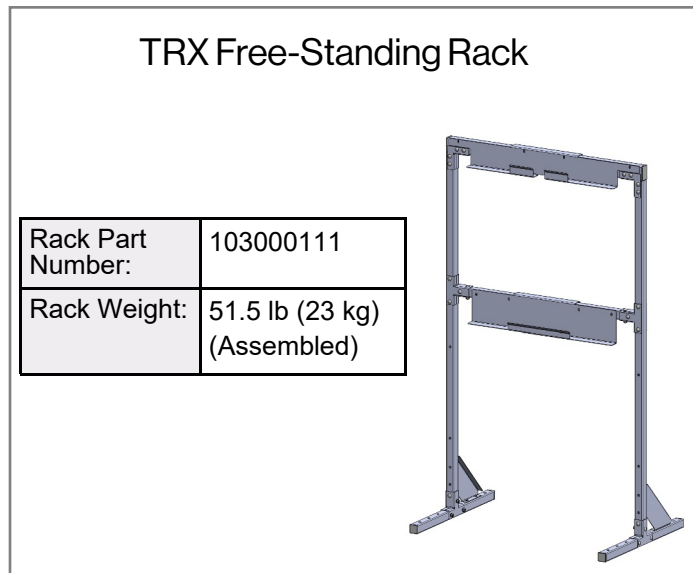

Fig 1. TRX Free-Standing Rack
This document explains how to assemble the TRX Free-Standing Rack (Fig 1) and attach the TRX (purchased separately) to the rack.
- *(Recommended)* Four (4) screws/expansion anchors for anchoring rack to floor. Reference local codes for minimum concrete thickness and use appropriate expansion anchors capable of supporting the rack and TRX weight.
- For rack weight, see Fig 1.